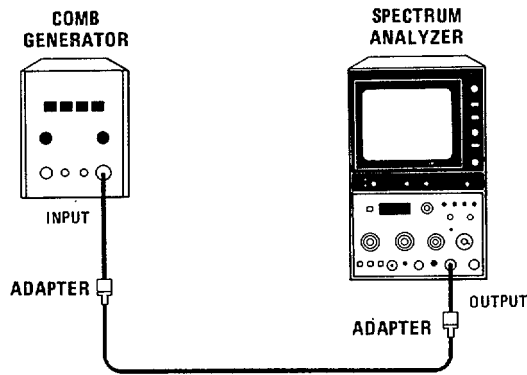

Figure 4-4. Tuning Accuracy Test Setup
3. Connect equipment as shown in Figure 4-4.